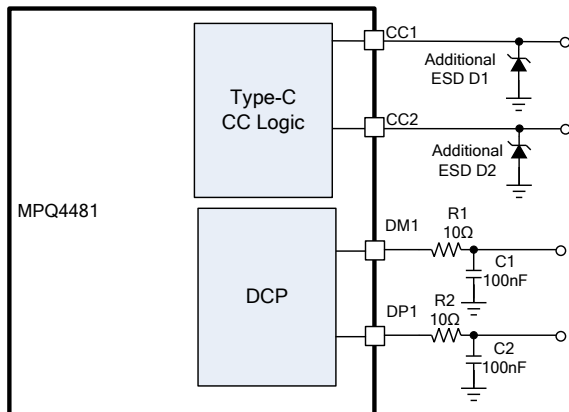

Figure 10: Recommended I/O Pins ESD Enhancing
Higher ESD levels should be considered for all USB I/O pins. The MPQ4481 features high ESD protection up to $\pm 8\text{kV}$ human body model on the USB pin, DP, and DM, and $\pm 5.5\text{kV}$ human body model on CC1 and CC2. The ESD structures can withstand high ESD both in normal operation and when the device is powered off. To further extend the DP and DM's ESD level for covering complicated application environments, additional resistors and capacitors can be added (see Figure 10).
10) See Figure 10 for the CC pins' ESD protection enhancing details.